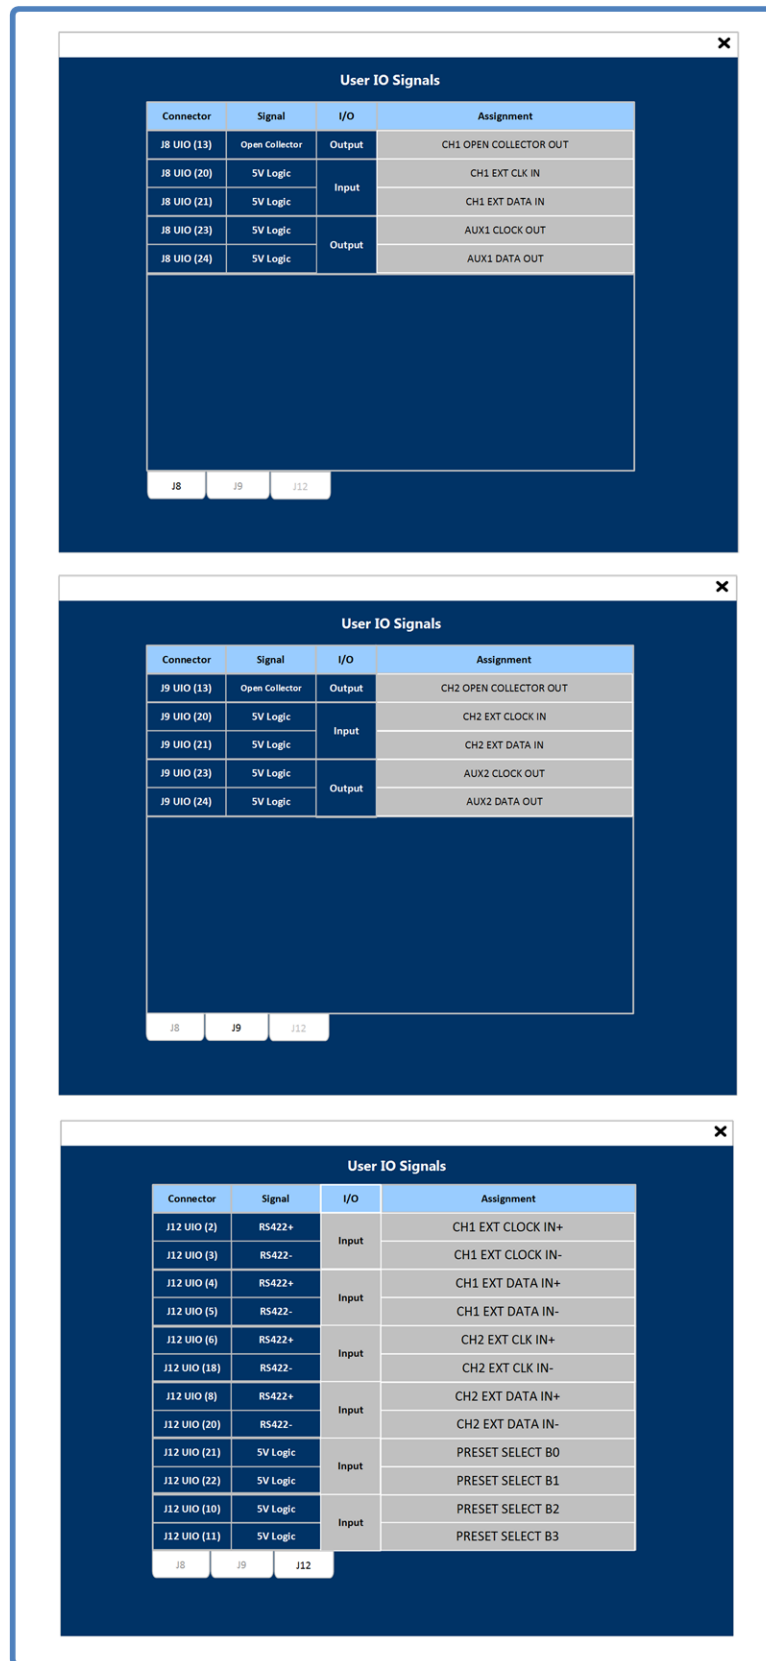

Figure 4-6 User IO Setup GUI
- v. *User IO* – Selection of this hardware menu option allows the user to select various user IO signals. Refer to the Figure 4-6 below for User IO Selection screens.